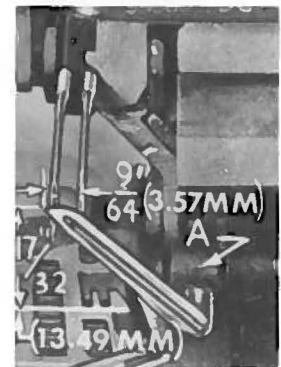

Fig. 10
Next, turn the handwheel until the upper looper is at the left end of its travel. On Style 39500 QW, check dimensions of upper looper point with respect to the RIGHT needle and throat plate (Fig. 10). Looper point should be 9/64 inch (3.57 mm) to the left of centerline of RIGHT needle and 17/32 inch (13.49 mm) above throat plate (Fig. 10). On Styles 39500 RG and RH, check dimensions of upper looper point with respect to the LEFT needle and throat plate. Looper point should be 3/16 inch (4.76 mm) to the left of centerline of LEFT needle and 39/64 inch (15.48 mm) above throat plate.
If resetting is necessary, do it by moving the upper looper holder (A, Fig. 10). NOTE: Figure 10 represents the correct dimensional settings for Style 39500 QW only.
If it becomes necessary to move looper thread pull-off (AF), be sure to take up all end play in needle drive shaft before tightening. If upper looper is located so that it is higher over throat plate than recommended in (Fig. 10), the purl will tend to form near the top edge. If upper looper is too low, the purl will form nearer the bottom edge.